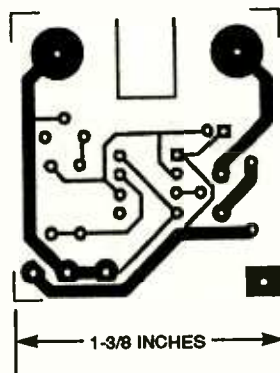

Fig. 2. This foil pattern can be used to make your own PC board.
**Construction.** Aside from the Muscle Wire itself and the wing base, you might be able to find everything you need to build Space Wings in your spare-parts box. However, for people who don't want to waste their time making a PC board or messing around with bits of plastic and tape, Space Wings is available as a complete kit from the source mentioned in the Parts List. People who do want to make their own PC board can do so from the foil pattern shown in Fig. 2, and they can purchase only the wing base and Muscle Wire from the same source.